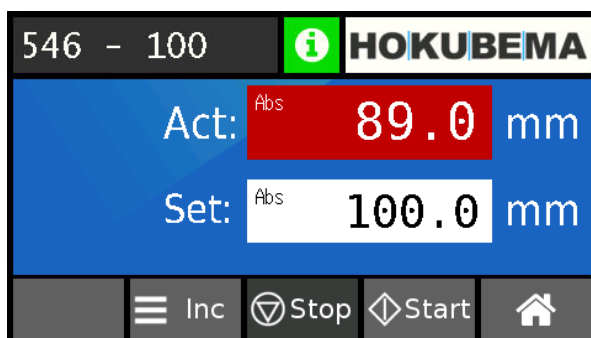
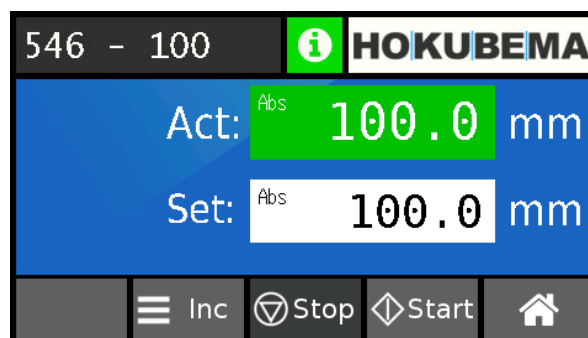

Figure 51: Setpoint input in absolute mode
Figure 52: Position reached in absolute mode
- Absolute mode is active when the “**Inc**” button is visible in the bottom line of the screen and “**Abs**” appears in the input fields in the top left-hand corner (see ⇒ Figure 51 and ⇒ Figure 52).
- Tap on the field “**Set:**” and enter the desired setpoint, e.g. **100.00** mm (⇒ Figure 51).
- The “**Act:**” field is highlighted in red until the setpoint value “**Set:**” is reached (see ⇒ Figure 51).
- The “**Act:**” field changes to green as soon as the target position “**Set:**” is reached (see ⇒ Figure 52).